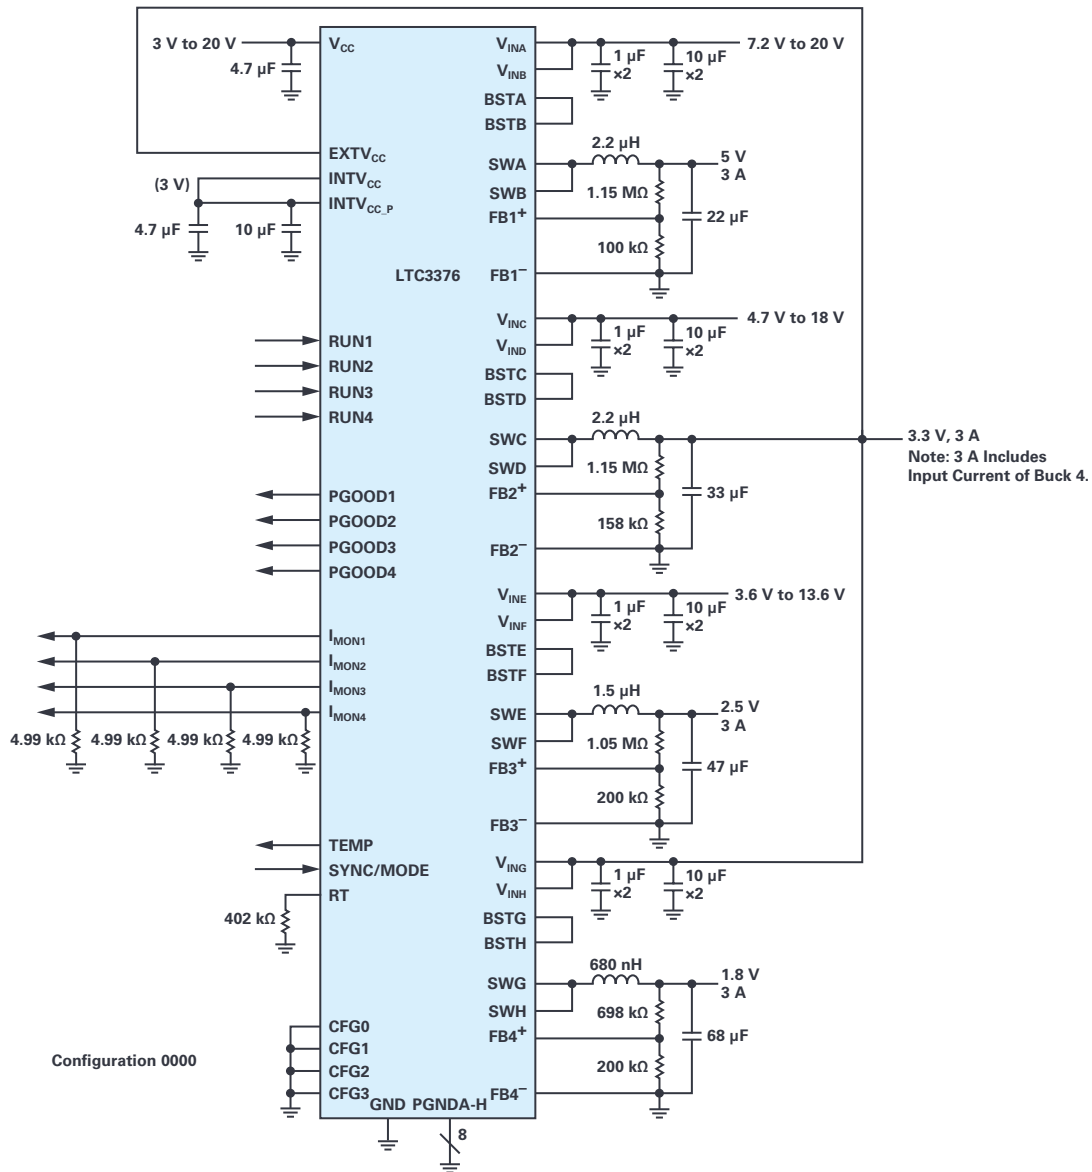

Figure 2. Typical quad-output application circuit.
- ▶ Five quad-buck configurations of up to 12 A each with four total inductors (see Figure 2).